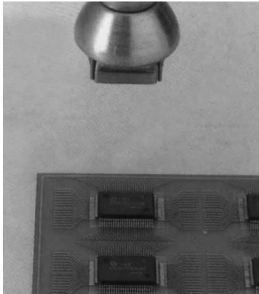

Figure 1
2. **Preheat SMD:** Refer to the photo to preheat SMD. (Fig.1)